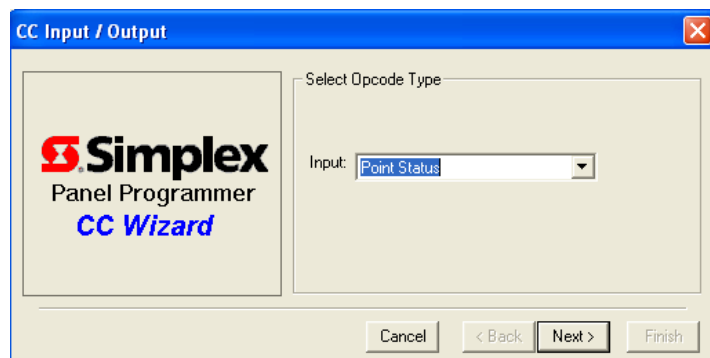

Figure 10-5. Select Input Opcode Dialog
2. Click on the **Add** button. The dialog shown in Figure 10-5 appears.